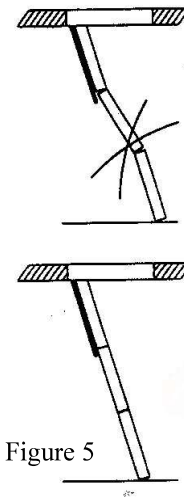

Figure 5
3. Make sure the upper sections are unfolded straight as if in use. Take a 2 (1) x 4 board, should be at least 8' long if ceiling height permits, align the board along the unfolded sections, extend so it rests on the floor and clamp to the upper sections of the stairs.
8. Close the stairs slightly and unfold the last section under the stairs and open stairs. When fully opened, the stairs should be in a straight line with no gaps between the hinges. The bottom of the stairs should be resting on the floor. If you have gaps between the upper hinges, stairs are probably too long ( Fig. 5). Go back and trim the stringers as described above. If you have gaps between the lower hinges, you have cut the stringers to short. Contact your supplier for a lower section stringer replacement.